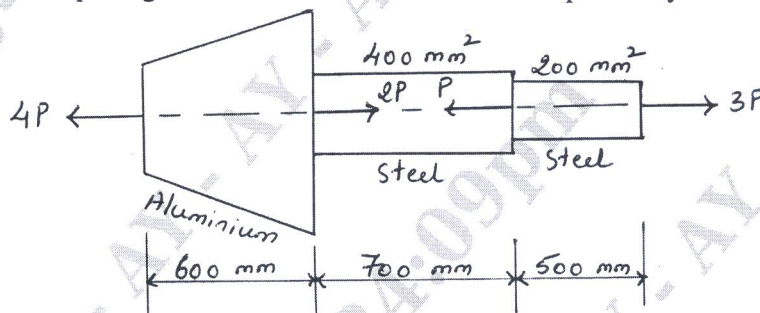

Fig.Q1(b)
- A round bar with stepped portion is subjected to the forces as shown in Fig.Q1(b). Determine the magnitude of force P , such that net deformation in the bar does not exceed 1 mm. E for steel is 200 GPa and that of aluminium is 70 GPa. Big end diameter and small end diameter of the tapering bar are 40 mm and 12.5 mm respectively.